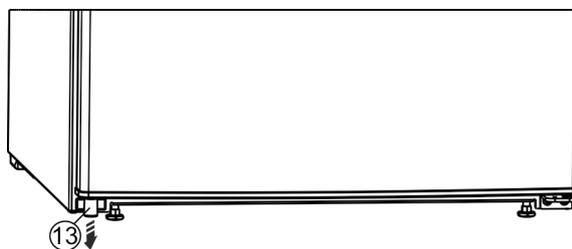

Fig. 3
- ▶ Remove the spacer Fig. 3 (13) from under the left-hand side of the door.